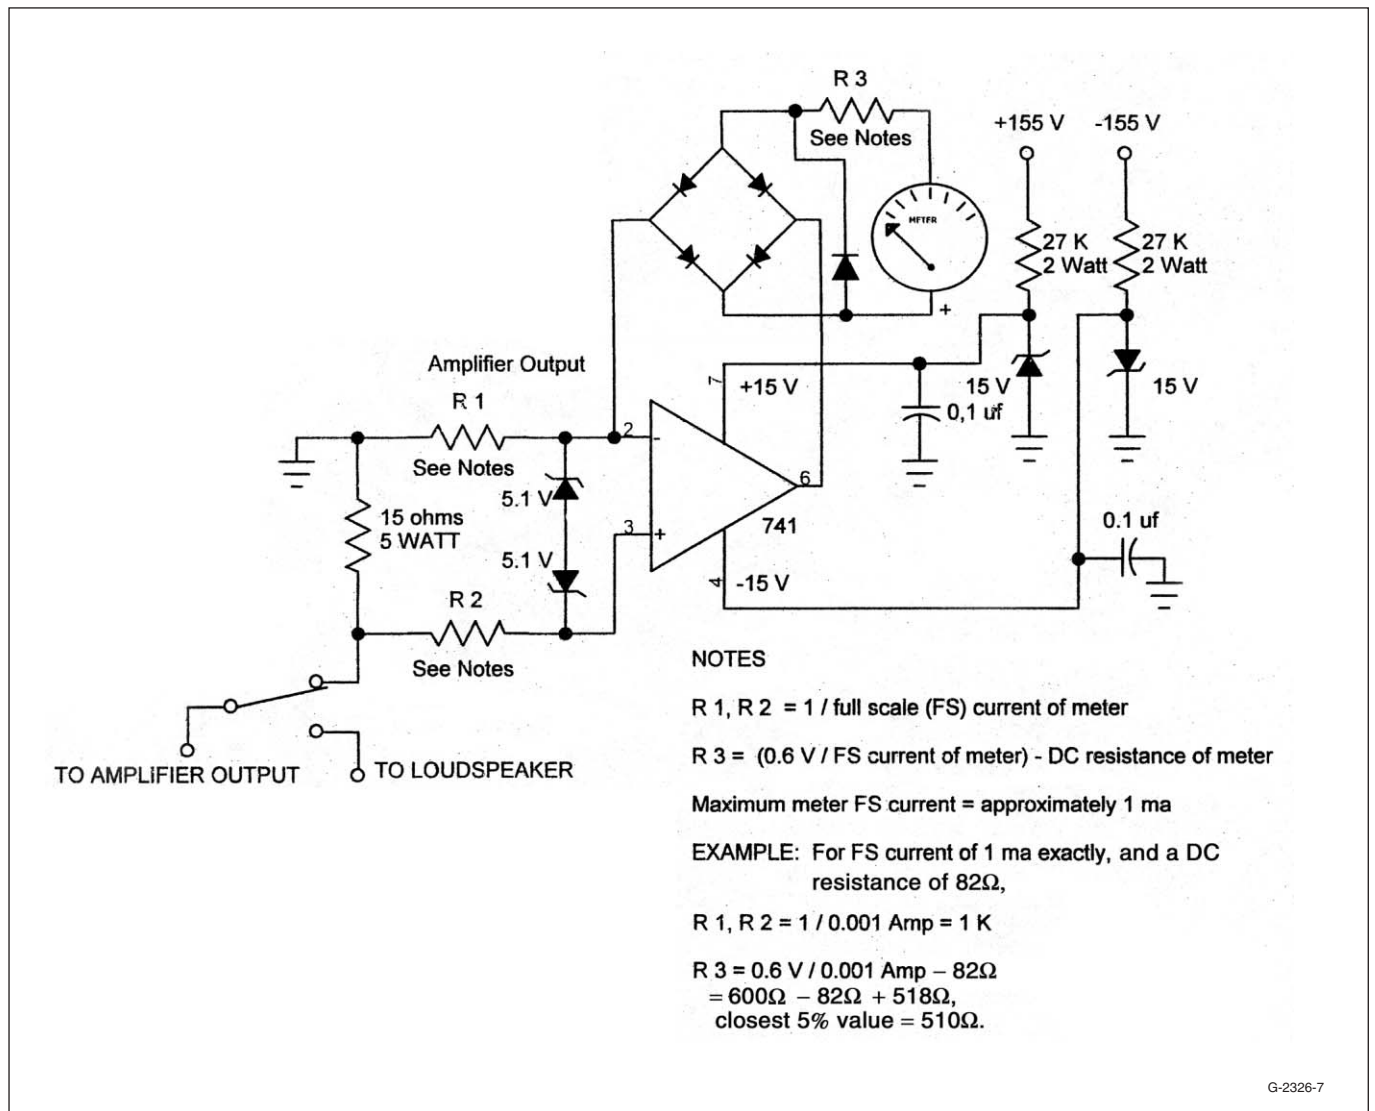

FIGURE 7: Meter driver circuitry (see text).
I found that it is handy to build a meter permanently onto the chassis for periodically balancing output tube bias. I have included a schematic (Fig. 7) for a driver circuit for an analog meter with a full-scale (FS) current of about 1mA or so. Included in Fig. 7 are formulas for calculating resistor values for the circuit depending on the actual FS current of the meter.